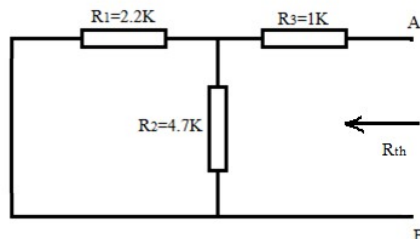

Figure 6
6. The power supply is switched off, voltage source is replaced by a connecting wire (short circuit or internal resistance of the source). Using Ohm-meter the resistance is found between A and B which is Thevenin resistance R_{th} Figure 6.
7. Measure the slope of the curve to calculate the resistance offered by the diode in the forward bias. Forward bias resistance is named as R_f as shown in fig. 6.